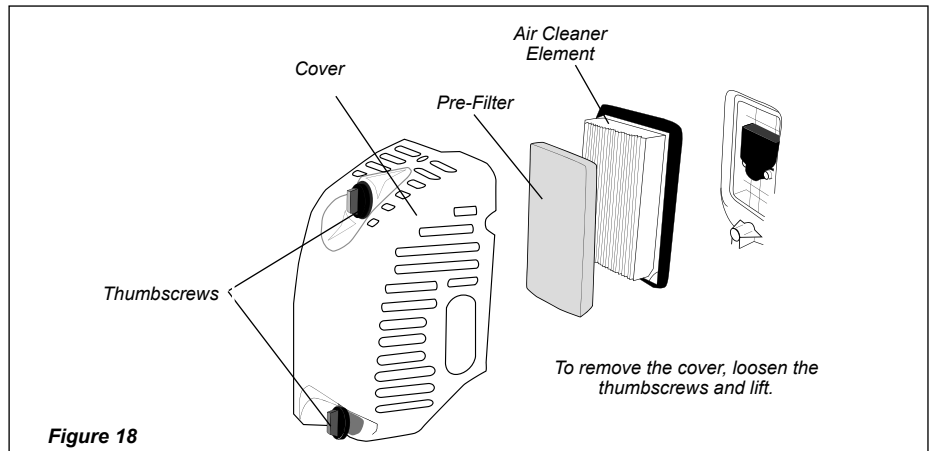

Figure 18
1. Remove the air cleaner cover by loosening the thumbscrews and lifting. See Figure 18.